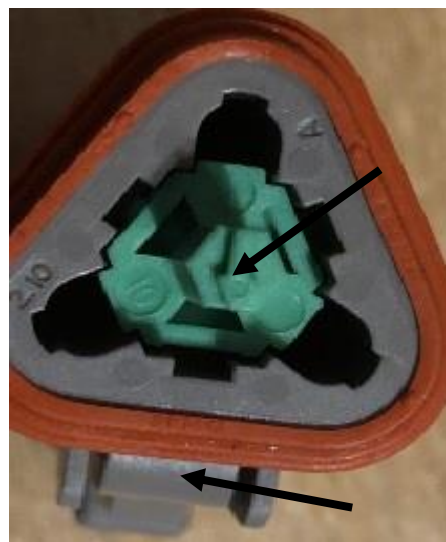

Figure 163
30. Once all the contacts are in place insert the wedge in the front of the connector. On three terminal connectors make certain that the arrow is pointing to the exterior locking mechanism. On the other connectors the wedge will only insert one way. Figure 163